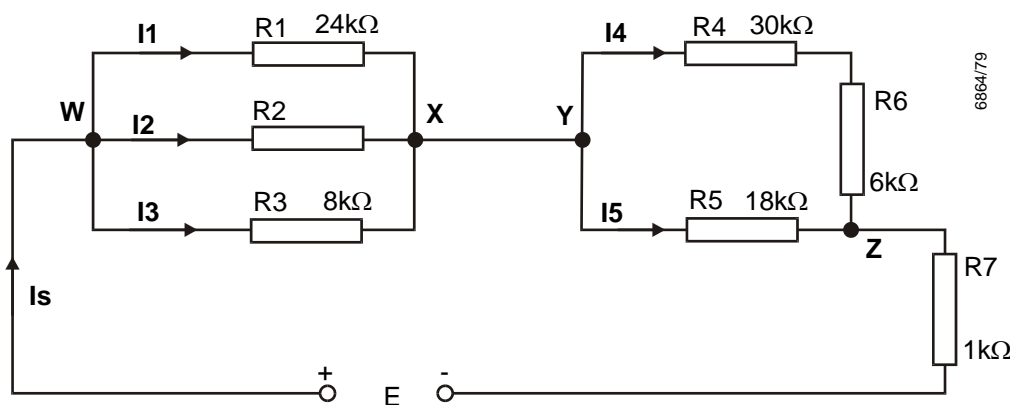

Figure 52
11. In Figure 52 above, the supply current (I_s) is 6 mA, I_3 is 3 mA and the voltage across R_4 is 60 V. Calculate: